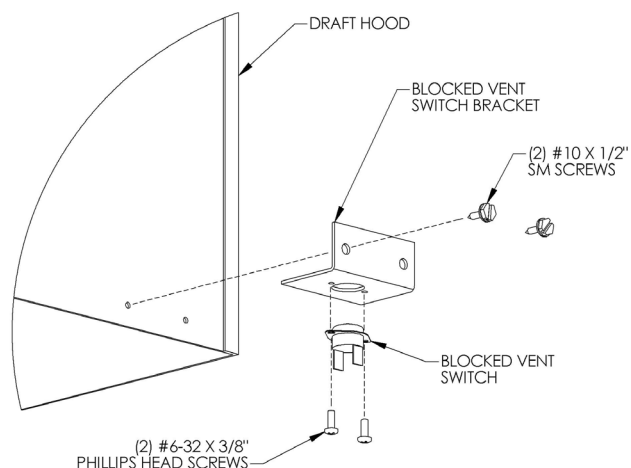

Figure 7.2
2. Mount the blocked vent switch in the rear of the boiler on the draft hood as shown in Figure 7.2.